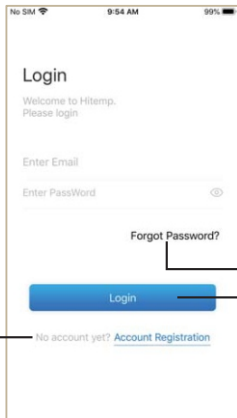
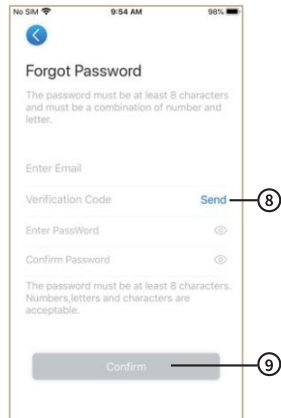

Fig.1 Login interface
Fig.3 Forgot Password interface
1. Account Registration: To register an account, click (1) (Fig.1) to jump to the Account Registration interface, fill in the relevant information and click (2) to receive verification code, while completed the application information, click (3) to read the details of the Privacy Policy, then click (4) to agree, and click (5), registration is done. Please note, the valid time of one verification code is 15min, please fill in the verification code within 15min, otherwise you need to ask for a new one.
2. Log in: Follow the instructions on the page(Fig.1), enter your registered email address and password, click (6) and jump to device list;
3. Forgot Password: While forget your password, click(7) (Fig.1), jumpto the Forgot Password interface (Fig.3). Follow the instructions on the page, All in the relevant information, click (8) to receive verification code from your mailbox, click (9) to confirm and password reset is done.